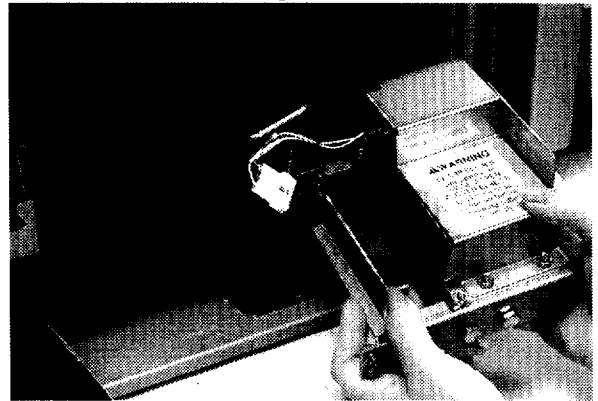

Figure 6
- c. Remove the paper cutter from the machine and set it aside (figure 6).